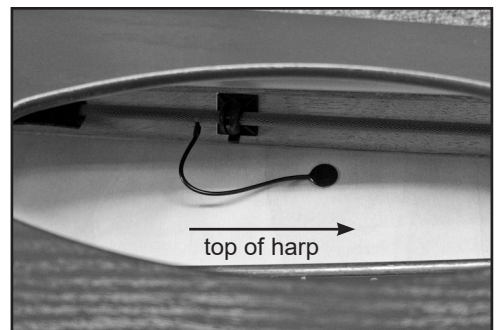

Figure 9 – Lead wire position
2. Position the element shiny side down, and practice using the pressure stick to press the element down onto the soundboard. Gently bend the lead wires to form a smooth arc as shown in figure 9.
1. The lead wires should curve upward so that the elements are pointing toward the top of the harp and the wires are not resting on the soundboard where they could cause unwanted vibration (see figure 9). If necessary, rotate the harness so that the wires fully clear the soundboard.